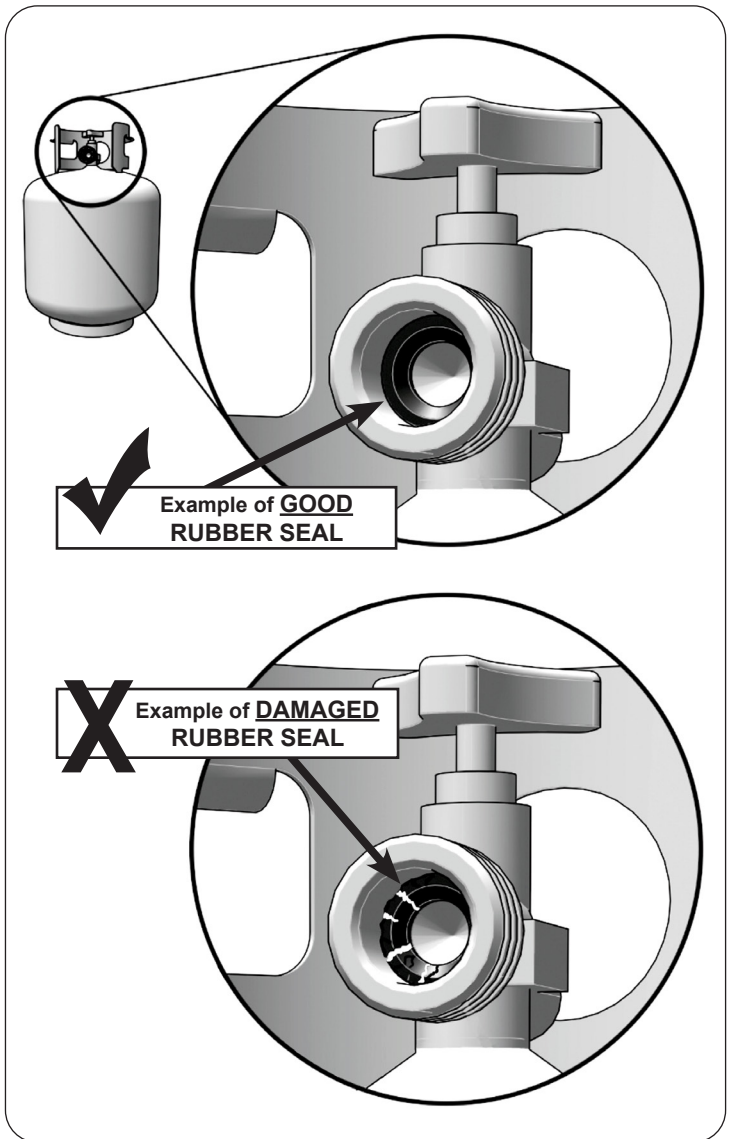

Fig. 14-1 Inspect rubber seal
- D. **CGA 791 connections on LP gas cylinders:** The cylinder face elastomeric face seal element (rubber seal) on these devices could, over time, show marked and visible damage or deterioration that might cause a leak even with the connection tightened. A visual inspection for the seal must be carried out every time a LP gas cylinder is replaced or refilled. Any LP gas cylinder showing signs of damage or deterioration as illustrated in Fig. 14-1, including visible cracks and pitting, must be replaced.